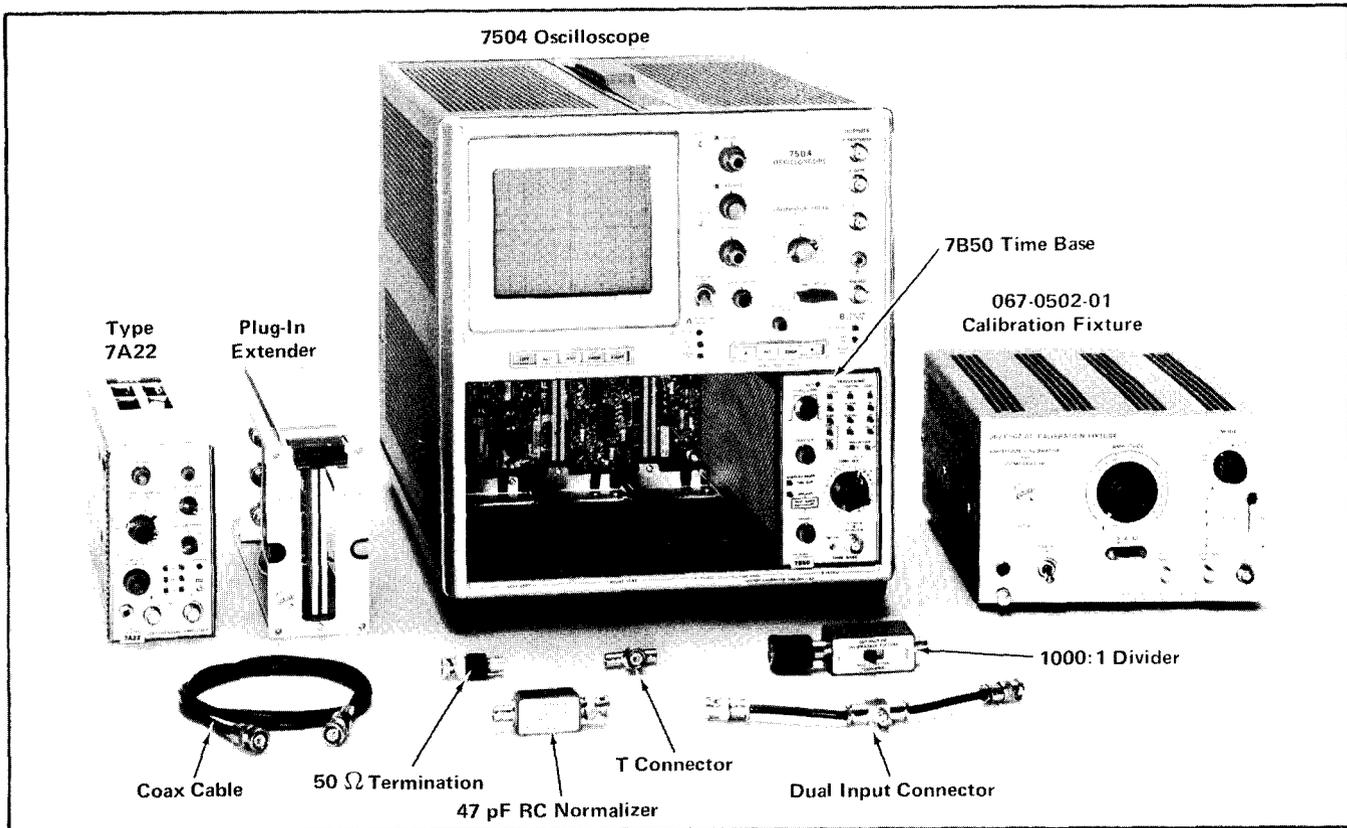

Fig. 5-2. Equipment required for steps 6 through 19..
6. Check or Adjust GAIN ①
- a. Test equipment setup is shown in Fig. 5-2.